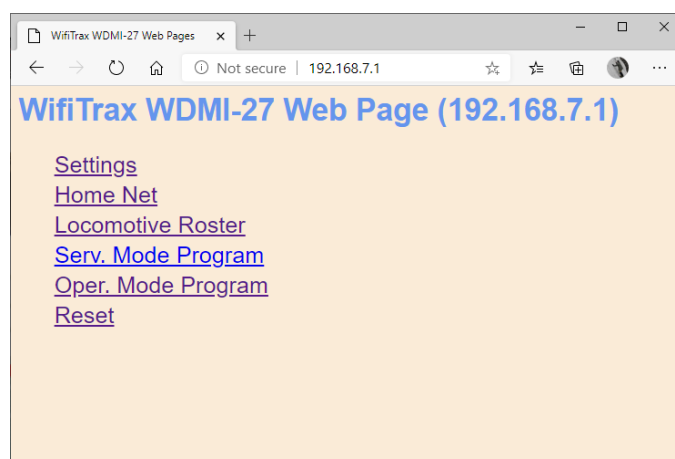

Figure 26 The WDMI-27 Web Setup Main Menu
- (1) Tap the “three dots” icon at the top right of the screen and select Web in the menu. You should now see the Web Setup Main Menu as in Figure 26. You can click or tap on any of the headings in the menu to access the setup for that feature. The section “Setup Advanced Features using a Browser” provides information about all of the menu options.
- (2) You now should see the WiThrottle Address page. At the bottom there should be four tabs Throttle, Address (highlighted in blue), WebServer and Settings. Tap on the WebServer tab and you should now see the Web Setup Main Menu as in Figure 26. You can click or tap on any of the headings in the menu to access the setup for that feature. The section “Setup Advanced Features using a Browser” provides information about all of the menu options. Note that WiThrottle Lite does not have this WebServer tab so if you are using the Lite version you will have to use Safari as described in the section “Setup Advanced Features using a Browser”
- (4) You should now see the Web Setup Main Menu as in Figure 26. You can click or tap on any of the headings in the menu to access the setup for that feature.
To modify General Settings, tap the Settings heading in Figure 26.
To change to Home Net mode, tap the Home Net heading in Figure 26.